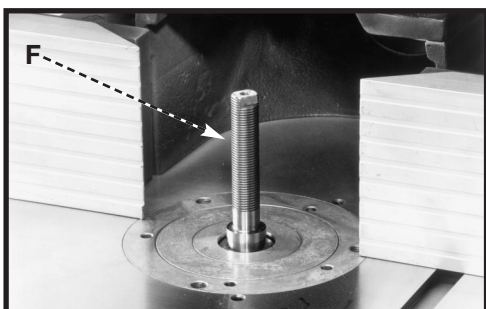
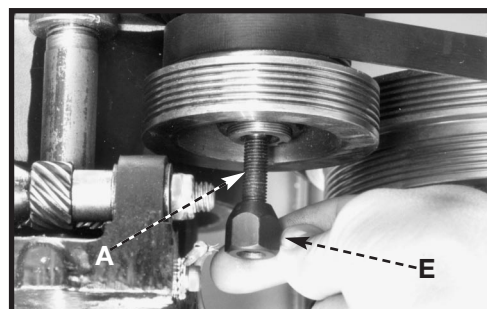

Fig. 6
Fig. 7
4. Use a wrench on the flats (F) Fig. 6 to hold the spindle while tightening the nut (E) Fig. 7 on the bottom of the tie rod.